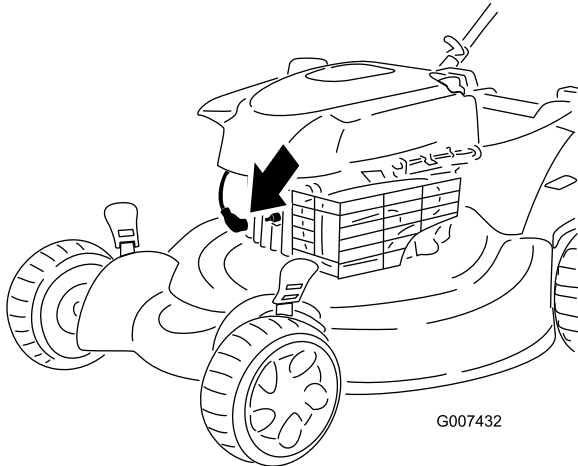

Figure 38
2. Disconnect the spark-plug wire from the spark plug (Figure 38) before performing any maintenance procedure.